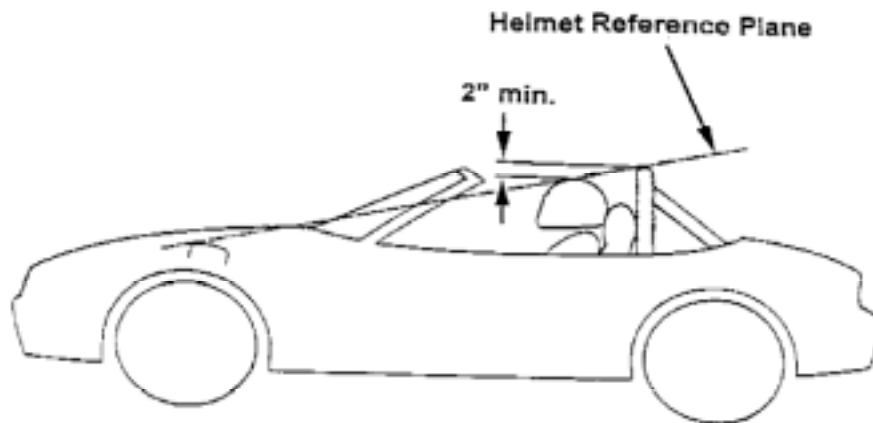

Figure 1
B.1.2 The top of the roll bar shall be a minimum of two (2) inches above the top of the driver's (and passenger's) helmet with the driver (and passenger) seated normally and restrained by seat belt/shoulder harness. A plane (Helmet Reference Plane) drawn from the top (not including padding) of the roll bar to structural parts of the chassis in front of the base of the windshield (e.g., top of front suspension strut towers) shall pass over the driver's (and passenger's) helmet. (See Figure 1.)